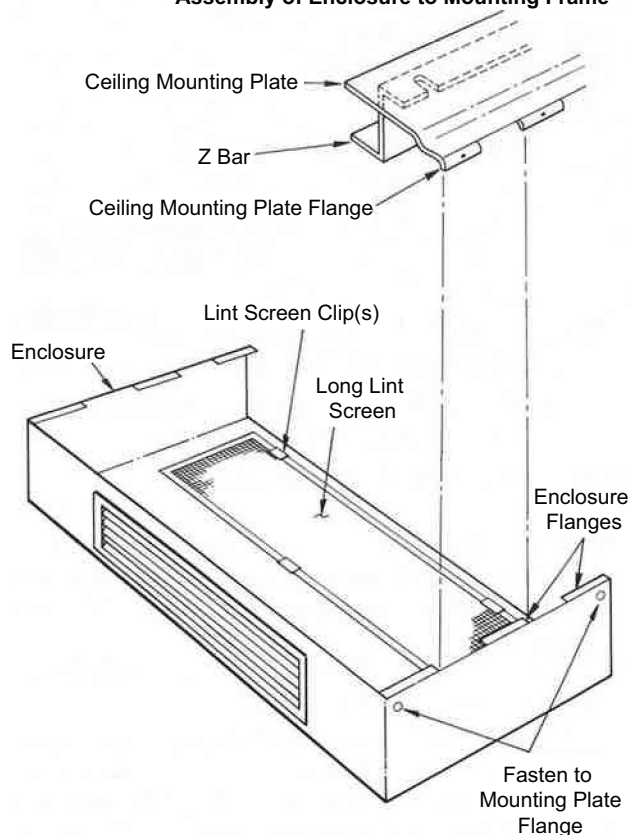

Fig. 16 — 36SH Installed in Carrier Enclosure
3. Remove Z bars from shipping position; fasten to unit with screws and clips provided. Install ceiling mounting plates to ceiling; lift unit and fasten Z bars to mounting plates. See Fig. 16. (Mounting plates may be installed on Z bars and entire assembly lifted to be secured to ceiling.)